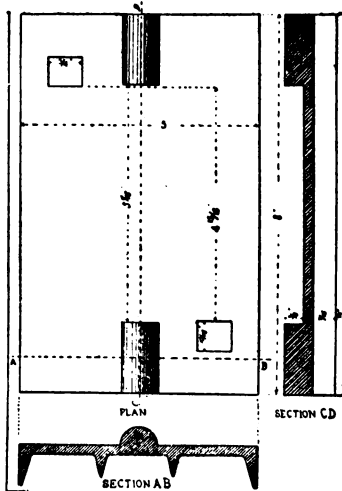

FIG. 2.
Tie Plate shown herewith (Fig. 2) is a five-inch plate, having four (4) under flanges, with a rail seat cut to fit the rail flanges on the upper surface of the plate. These plates preserve the exact radial position of the rail and have been successfully used on curves of five hundred feet radius where no elevation of the outer rail was permissible and where other form of fastening had entirely failed. As the hook head spike in common use in this country is used to hold the rail down when it springs up, as the reflex movement due to the deflection of the rail under its load, so should any shoulder Tie Plate where the same are needed provide not only for the movement out of the rail by direct pressure, but also for the inward movement due to the reaction, and the plate herein shown is without doubt the most perfect Tie Plate which has yet been offered the railways of the world and is attracting the attention of Europeans, who have experimented and used many types of Tie Plates with only partial success.